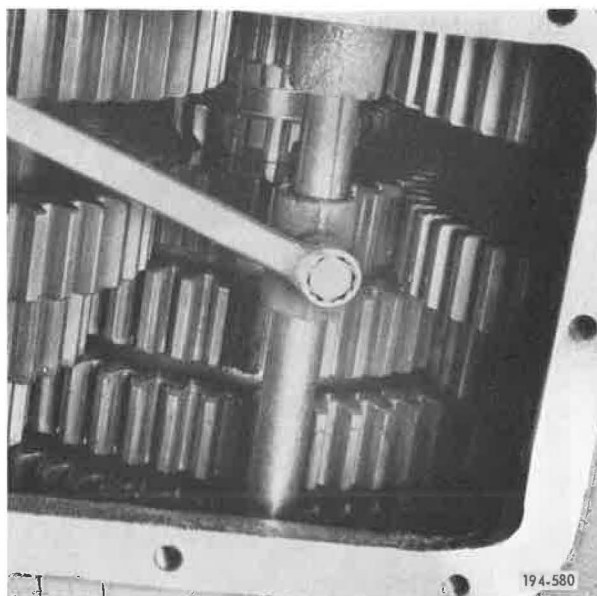

Figure 5-981. Installing Setscrew
11. Advance rail through intermediate bore of case and second/third speed shift fork, until rail reaches neutral position. Install setscrew into second/third speed shifter, and tighten to recommended torque. See Figure 5-981. Refer to Torque and Tolerance Table, Item 8.